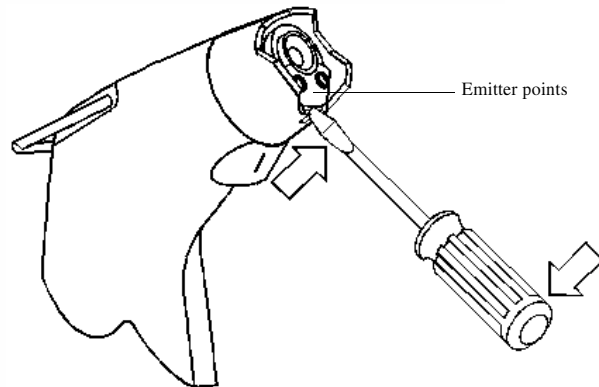

Figure 1. Use the screwdriver as a lever.
3. Using the screwdriver as a lever, loosen the old clip, then grasp it between your thumb and forefinger and detach it from the gun. See Figure 1.